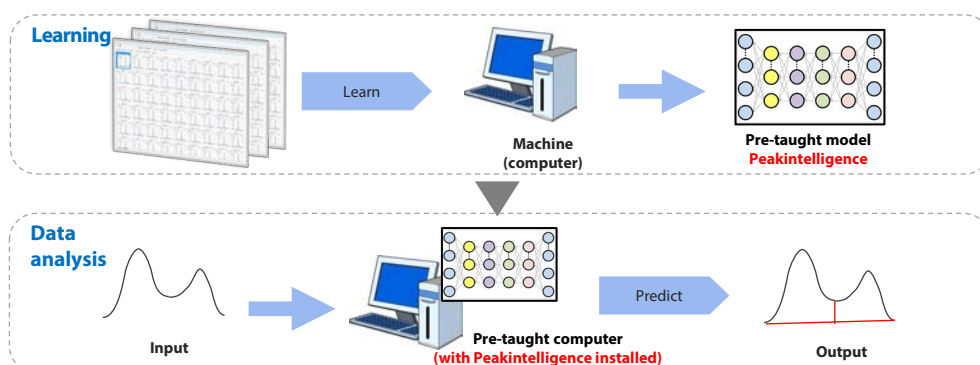

Fig. 2 Illustration of Peakintelligence Software
Peakintelligence software is based on new peak integration technology developed using “deep learning,” which is a type of artificial intelligence (AI). AI refers to the overall concepts and technologies, whereas “machine learning” and “deep learning” are two types of techniques used for AI (Fig. 2). For machine learning, characteristics to be analyzed and learned must be identified by a person, whereas for deep learning, a machine (computer software) identifies the characteristics to be analyzed. That means large amounts of data can be learned without the variability caused by humans.